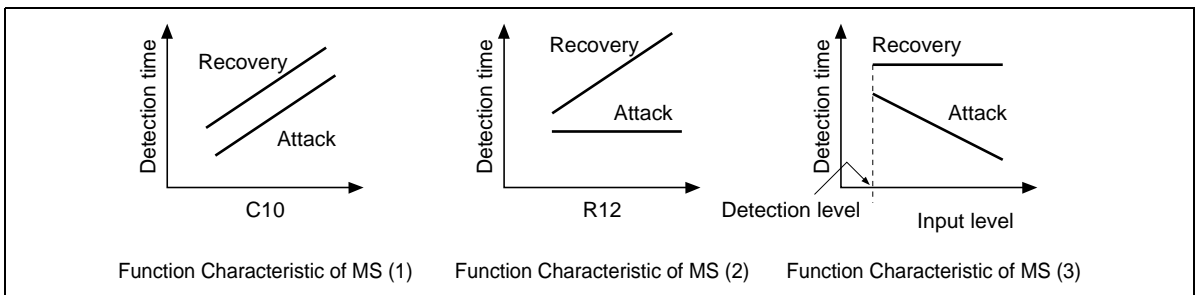

Figure 6 Function Characteristics of MS
Figure 6(1) generally shows that detection time is in proportion to value of capacitor C10. But, with Attack*² and Recovery*³ the detection time differs exceptionally.
Like the figure 6(2), Recovery time is variably possible by value of resistor R12. But Attack time gets about fixed value. Attack time has dependence by input level. When a large signal is inputted, Attack time is short tendency.